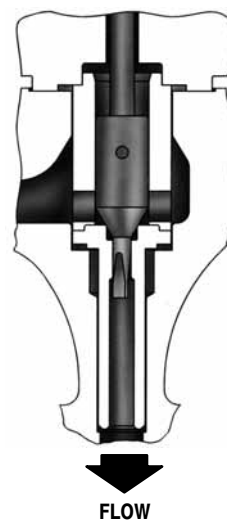

*Figure 5. Micro-Flat/Form Trim*
**(D)— Micro-Flat/Form**—General service gas or liquid applications where high rangeability (>200:1) is required. See figure 5.
Micro-Flat/Form trim (figure 5) is a special plug design for flow up service only. Using features from both Micro-Flat and Micro-Flow trims, this trim is designed for high rangeability flow service.